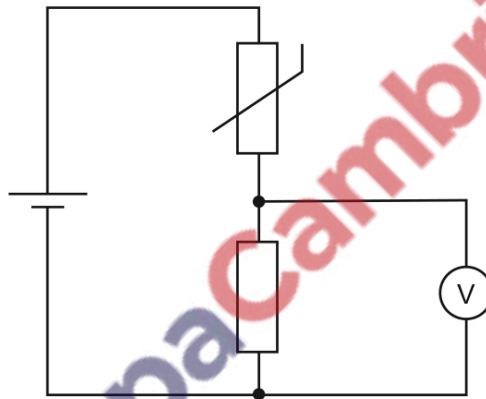

Fig. 7.2
- (b) An n.t.c. thermistor and a resistor are connected as shown in Fig. 7.2.